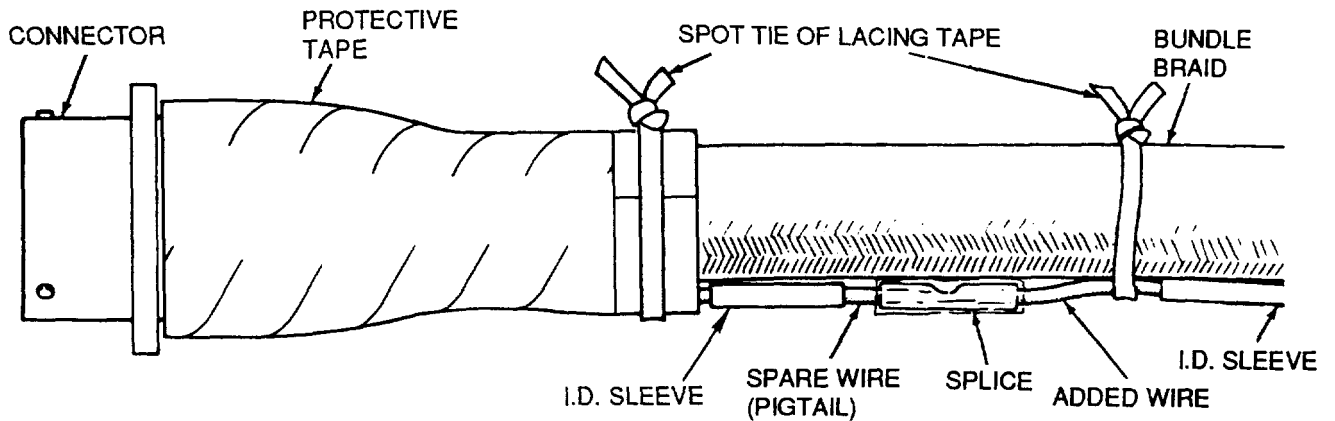

Figure 26. Adding Unshielded Wire
34. **Adding Unshielded Wires.** When it becomes necessary to add wires to the harness, route added wires parallel and external to the existing harness. Secure added wires to the harness using lacing tape. The listed procedures should be followed (Figure 26):